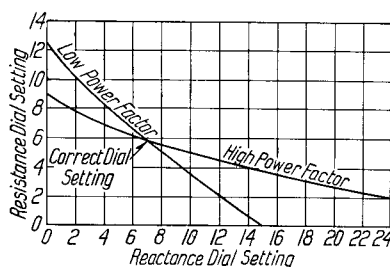

Fig. 10
43. The curves are plotted from test data obtained as described above. See Fig. 10. The compensator units are then given permanent settings, at the values of resistance and reactance corresponding to the point where the curves intersect. It is evident that this is the proper setting, since the two curves are taken at the two extreme power-factor conditions. This can be checked by a graphic voltmeter chart run through a complete cycle of load and power-factor change. It should indicate a constant voltage at the load center through the entire period.